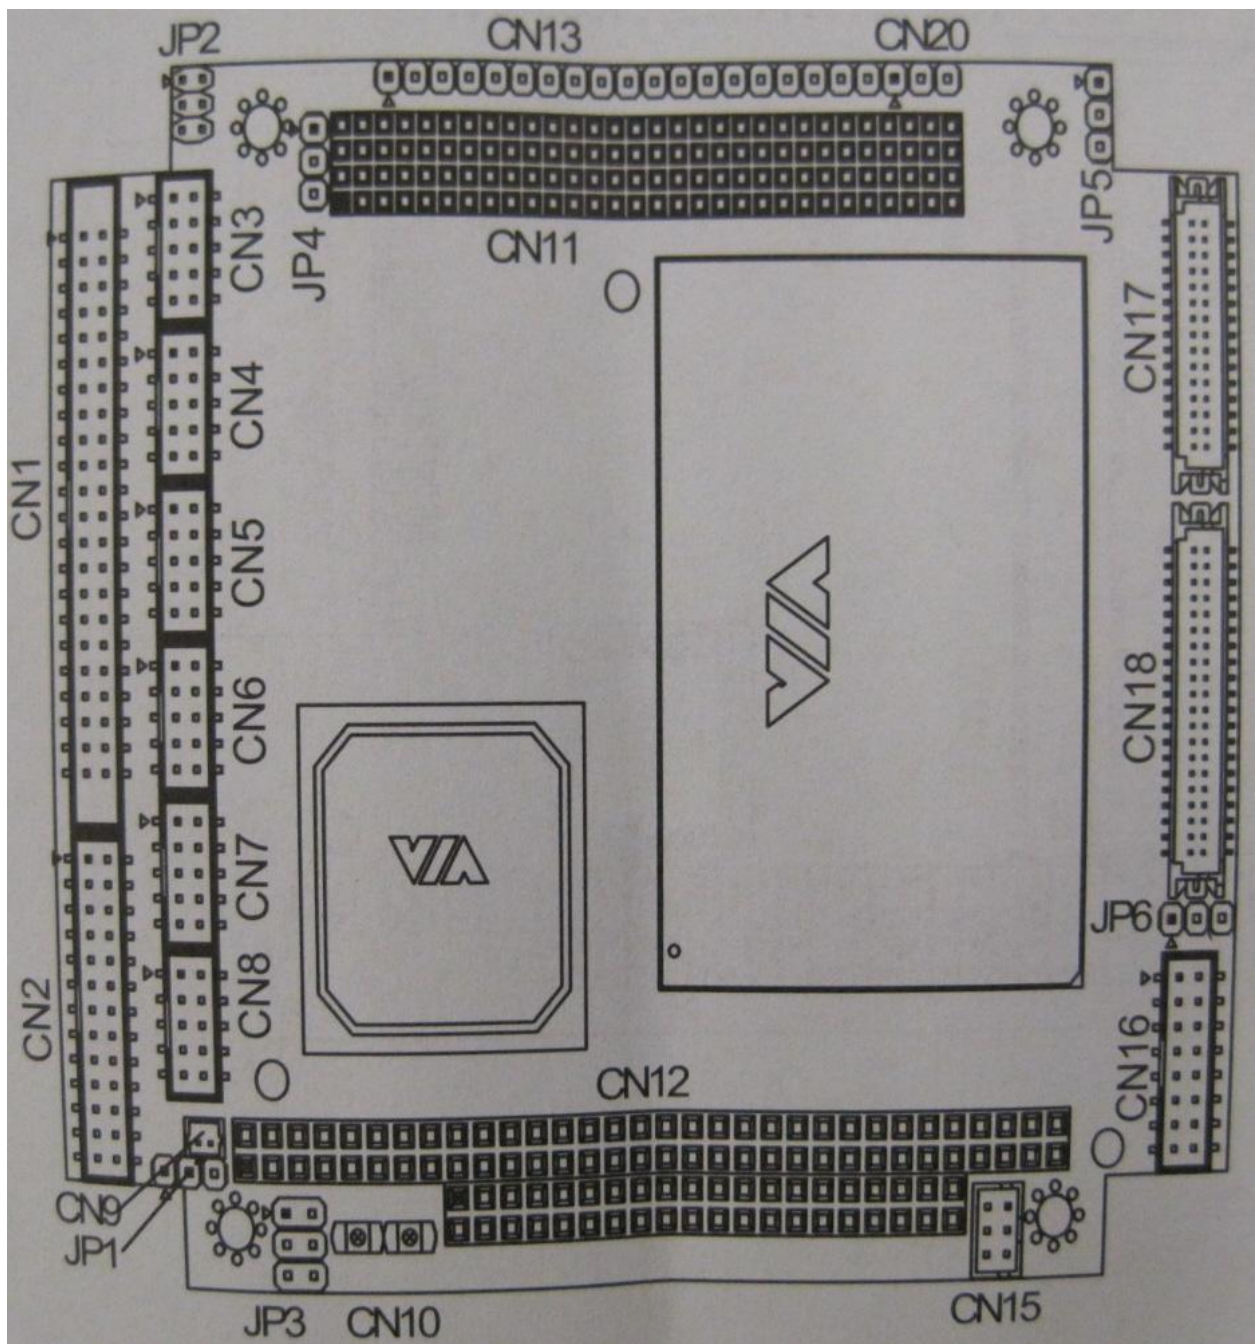

Figure 22 Excerpt from the CPU module's reference manual.
11. Figure 22) to determine where the various connectors go. A representative image of the CPU module's reference manual for various connectors is shown. We currently use CN3 for Ethernet, CN4 for serial I/O, CN7 for USB, CN15 for the keyboard – we do not use the mouse – and CN16 for VGA video.